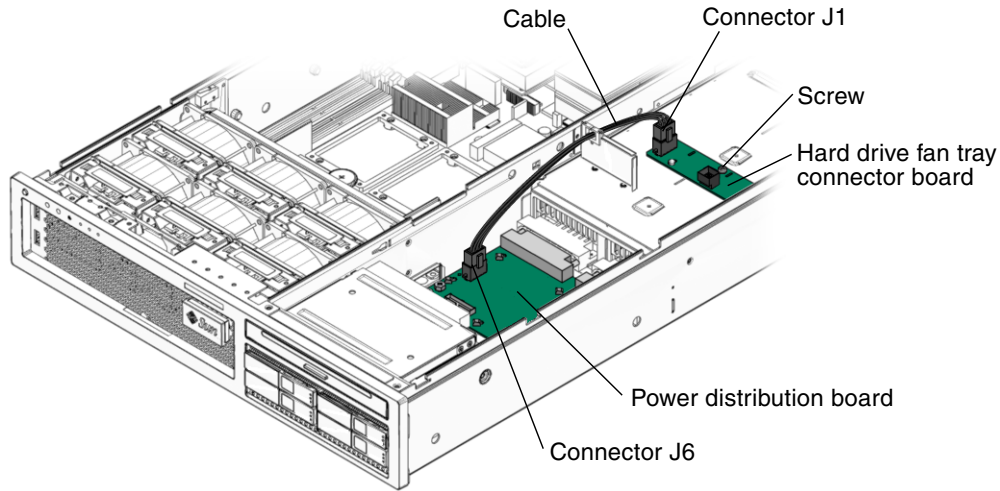

FIGURE 3-37 Hard Drive Fan Tray Connector Board – Connector J1
6. Disconnect the cable from connector J1 (FIGURE 3-37).
2. Install the hard drive fan tray connector board (FIGURE 3-37).